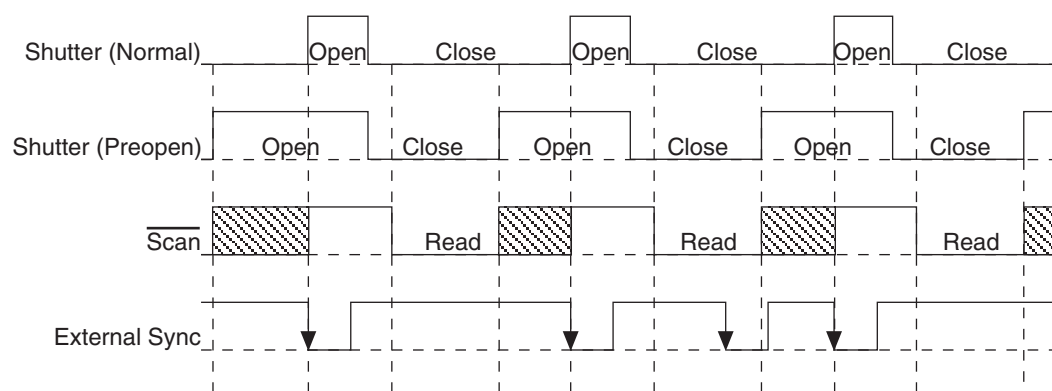

Figure 24. Continuous Cleans Timing Diagram (-edge trigger)
2. If EXT SYNC is still active (in Figure 24, this means that if it is still LOW) at the end of the readout, the hardware may interpret this as a second sync pulse, and so on.